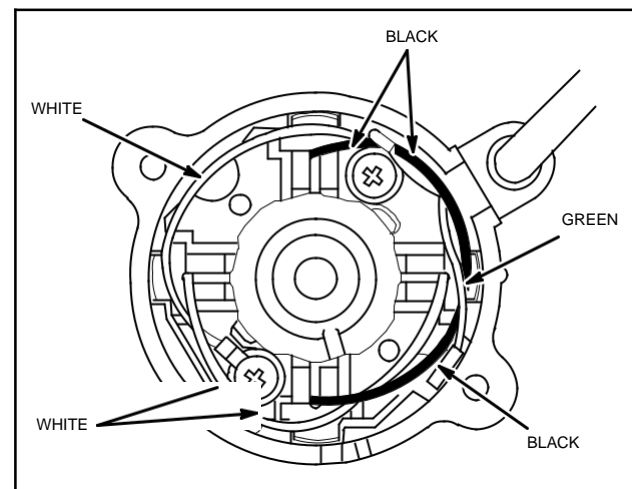

Fig. 710 – END CAP WIRING 120 VOLT AC
2. Assemble wiring in commutator end cap for 120 volt AC motor as shown in Fig. 710.